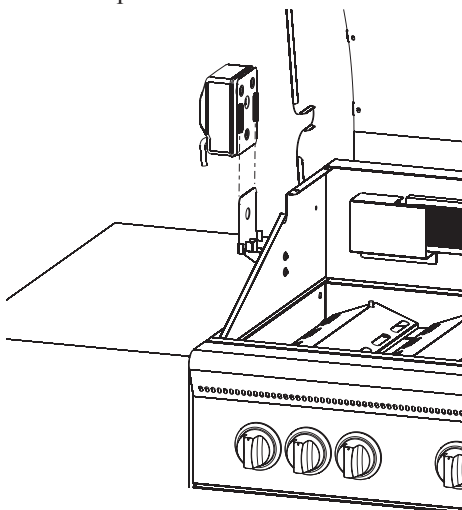

Figure 11
12. Slide motor into position on motor bracket. See Figure 11.